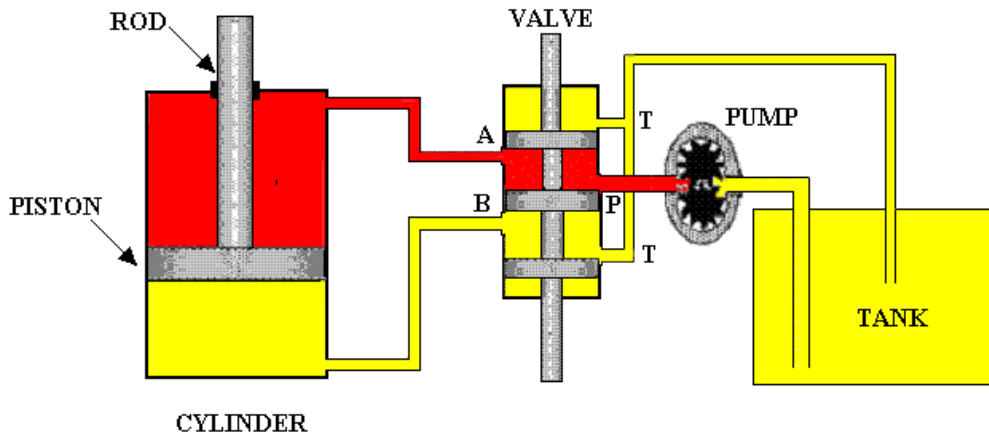

Figure 3
6. The simple hydraulic circuit shown represents the system in figure 3. The circuit diagram should be drawn using symbols from British Standard 2917 and these are laid out below. Using solid pencil lines draw in the pipe line connections to complete the circuit.